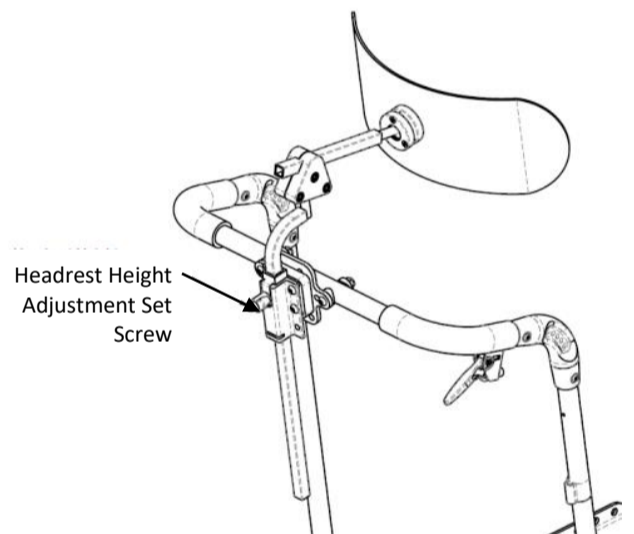

Figure 16.48: Headrest
1. Loosen the "Headrest Height Adjustment Set Screw" and slide the head rest assembly upwards until it is free of the chair (see Figure 16.48).